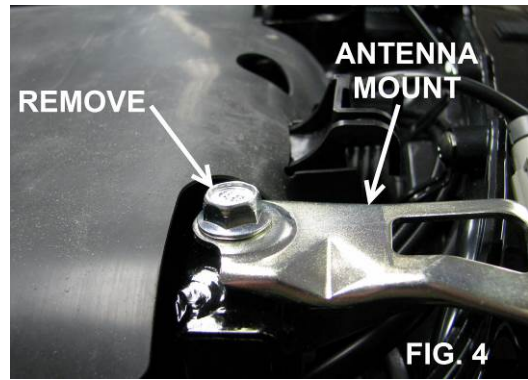

FIG. 4
7. USING A 12MM WRENCH REMOVE THE FLANGE BOLT HOLDING THE RADIO ANTENNA MOUNT TO THE BIKE. SEE FIG. 4. THIS BOLT WILL NOT BE REUSED.